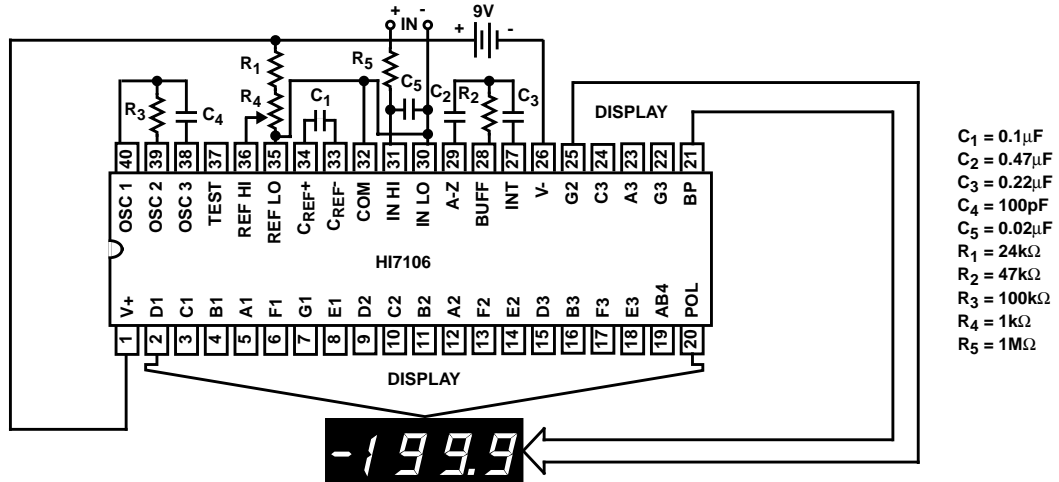

FIGURE 1. HI7106 TEST CIRCUIT AND TYPICAL APPLICATION WITH LCD DISPLAY COMPONENTS SELECTED FOR 200mV FULL SCALE
- Unless otherwise noted, specifications apply to both the HI7106 and ICL7107 at $T_A = 25^\circ\text{C}$, $f_{\text{CLOCK}} = 48\text{kHz}$. HI7106 is tested in the circuit of Figure 1.